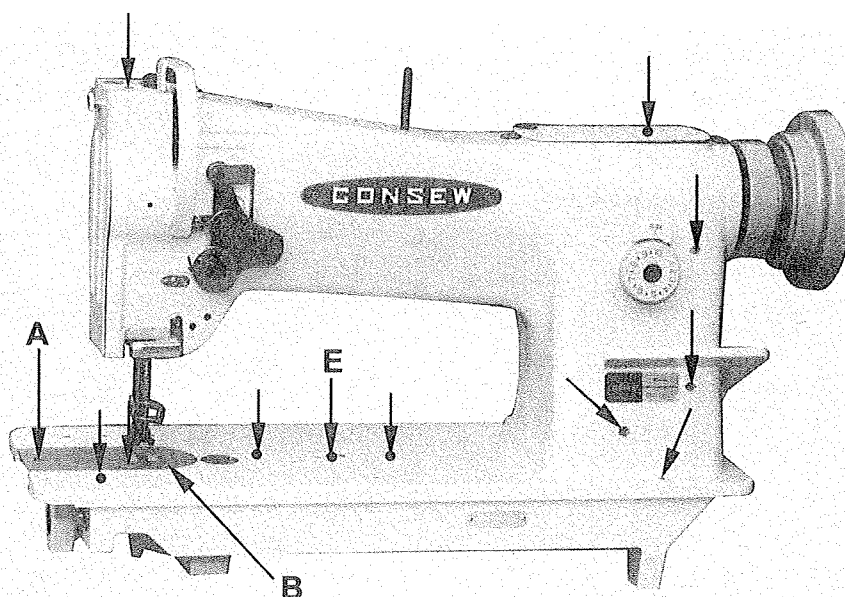
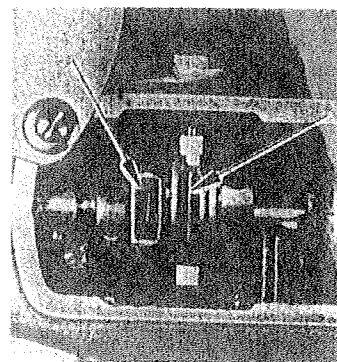

Fig. 2
Fig. 6
(Fig. 2~Fig. 6)
1. Lift the needle bar to its highest point, place the feed dog at this side in its travel! turning the machine pulley, and open the slide plate (A, Fig.2)
If it should become necessary to re-engage the safety clutch, depress button (E, Fig. 2) in the bed plate of the machine. At the same time, turn machine pulley until the locking mechanism re-engages the drive shaft beneath the bed of the machine. Open bed slide plate and rock the machine pulley back and forth to remove any foreign matter which may have lodged itself in the hook. Do not use any sharp-edged tools, etc., lest the hook be damaged.